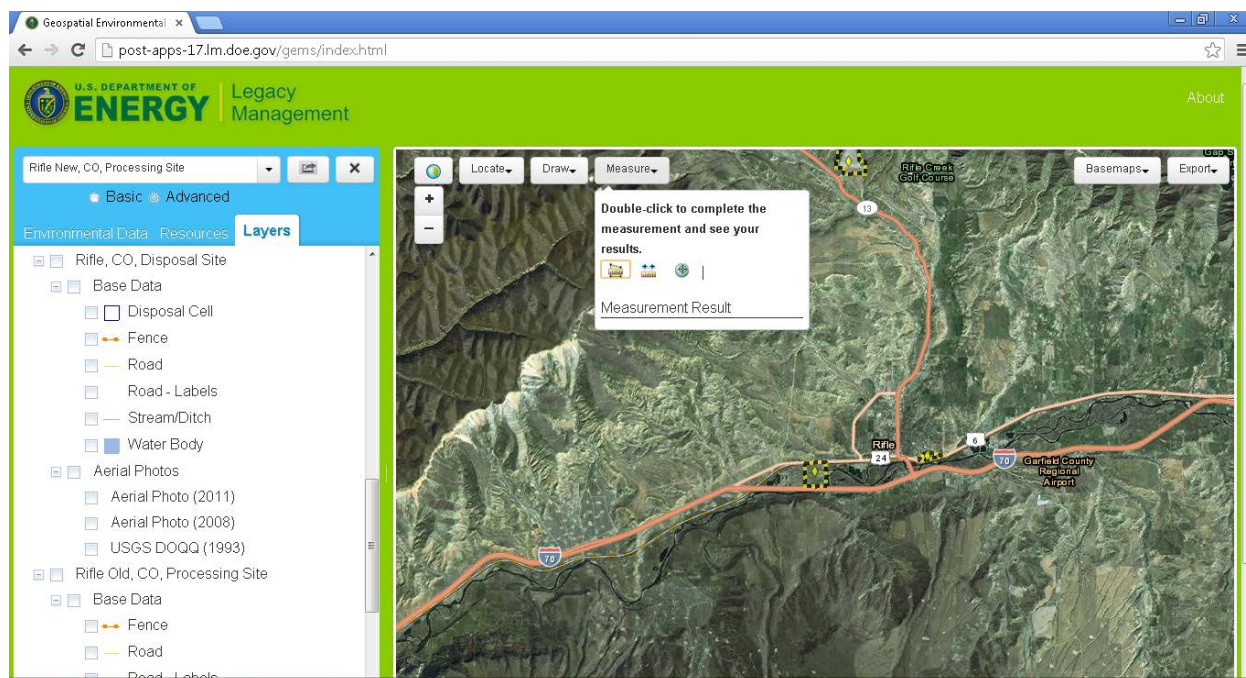

Fig. 8. Screenshot of the GEMS measurement features.
- Employ spatial tools (**Fig. 8**) to measure linear distance and surface area